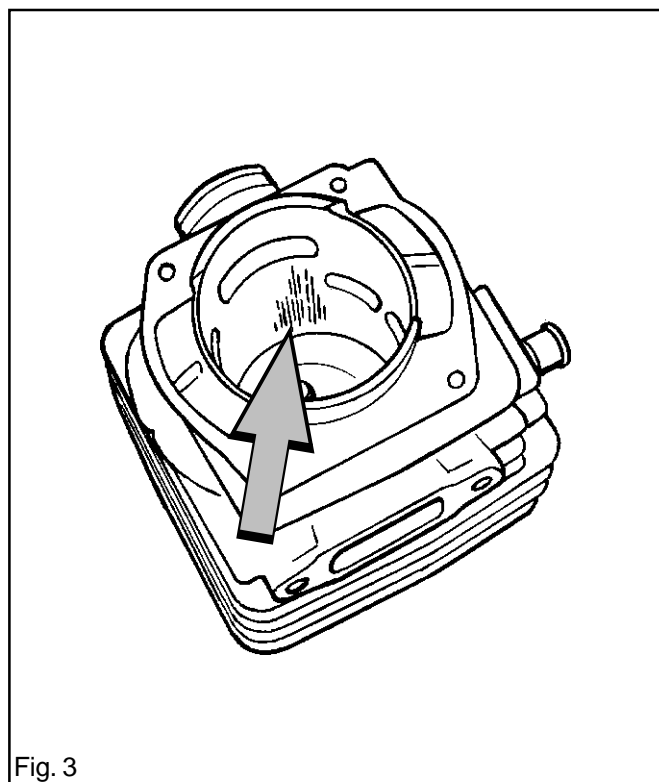

Fig. 3
1. That the cylinder's surface coating is not worn. Especially in the upper part of the cylinder. See fig. 3.